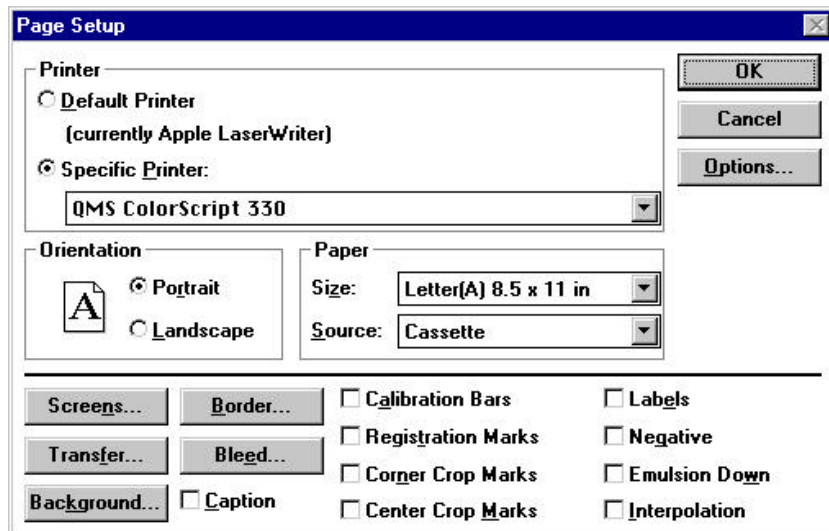

Figure 5-15 Adobe Photoshop 3.0.5 Page Setup Window
**3. Click Setup to change the variables in the Page Setup window, shown in Figure 5-15:**